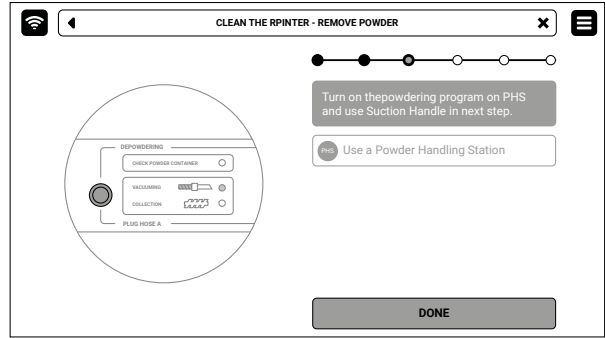

Fig. 9.3 Turn on the depowdering program on the Multi PHS.
4. If you have the Multi PHS connected to the printer, the corresponding message will appear on the screen. Turn on depowdering program and press **DONE** on the screen (fig. 9.3)